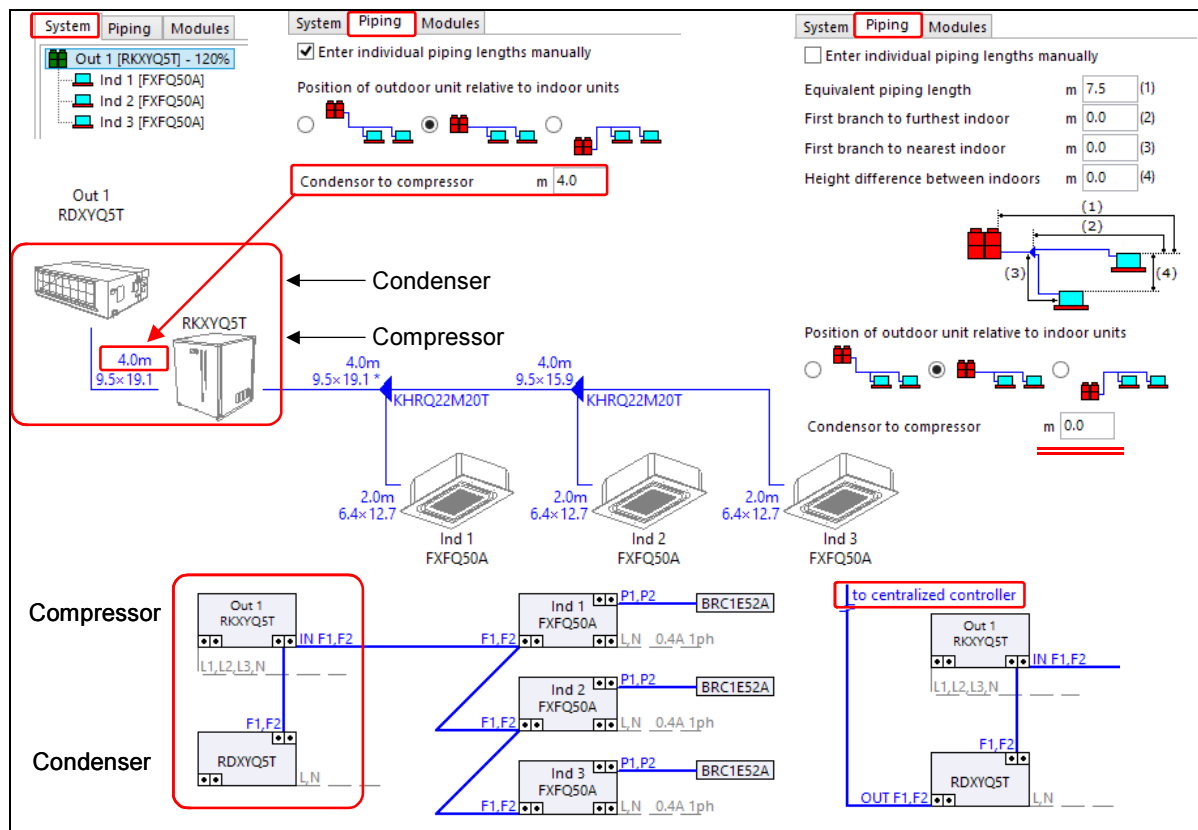

Figure 102: An outdoor for indoor system with its piping and wiring diagrams
Figure 102 shows the differences in the piping and wiring diagrams, when selecting an outdoor for indoor system:
The piping tab in the outdoor editing window now shows an extra field to enter the piping distance between the compressor and the condenser (see Figure 102 at the top middle and right). You can enter this distance ("*condenser to compressor*") whether or not you decide to enter the piping lengths manually.
2. The wiring also shows the two parts of the outdoor unit separately. The compressor connects its F1/F2 wiring to the indoor units and to the condenser. In case you connected the outdoor unit to a centralized controller, you have to connect the condenser to the it, as shown at the bottom right in Figure 102.